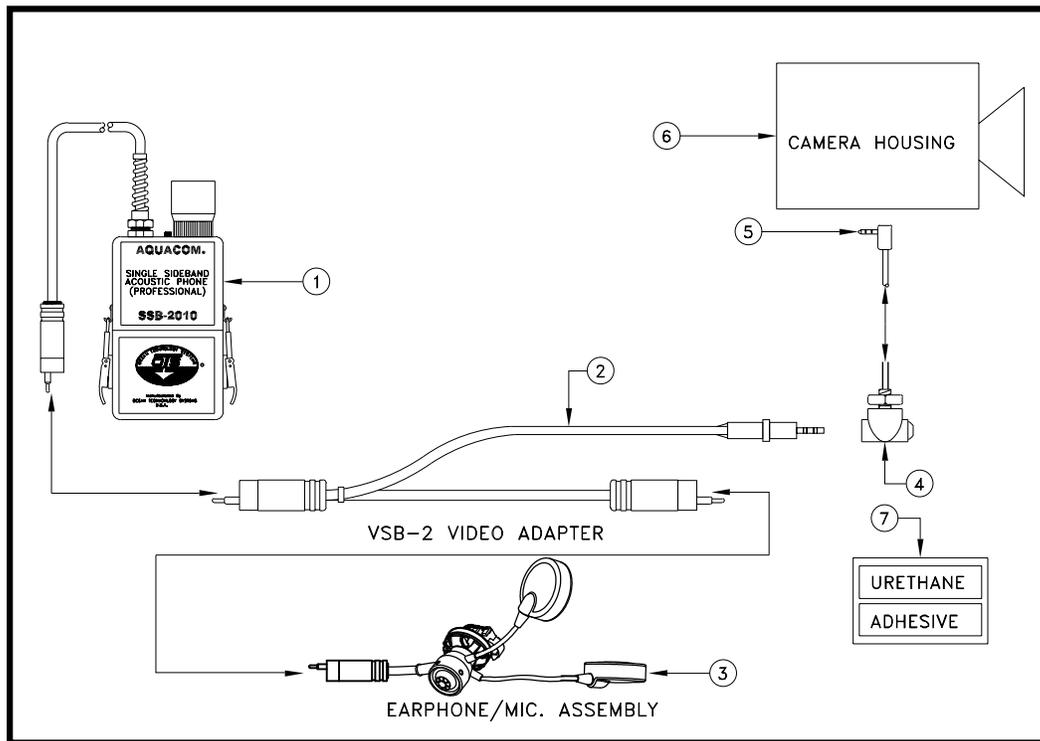
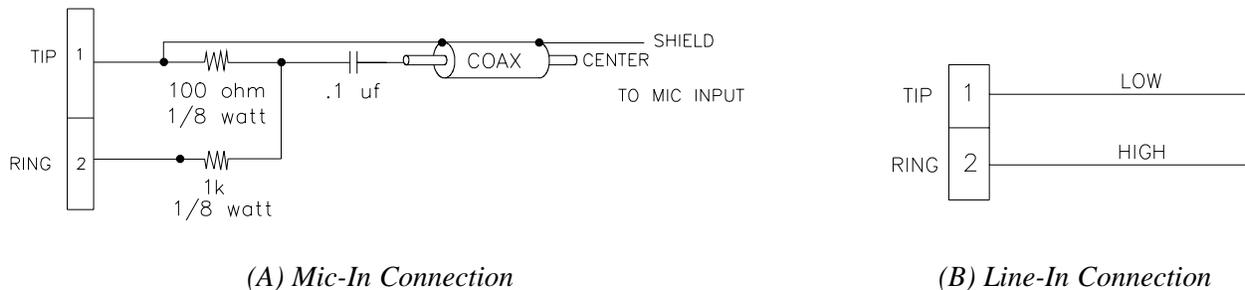

Figure 1
Figure 2
Refer to Figure 1.
You will need to obtain the appropriate plug (Figure 1, Item 5) for audio input into your camcorder's mic-in or line-in jack. Often this is a mini (3.5mm) phone plug but may vary. Be sure to acquire a plug that—along with an installed cable—will fit easily between the camera and the wall of the underwater housing (a 90°-angle plug may be required), so that the camera with the connected audio plug can be inserted into or removed from the housing without damage. Standard audio plugs are available at any Radio Shack® or other electronic component supplier.
1. **Make the electrical connections:** The correct wire connections between the female bulkhead E/O connector (Figure 1, Item 4) and the audio input connector (Item 5) depend on whether your audio cable will connect into an external mic-in or line-in jack on your camcorder. (Mic-in requires higher impedance than line-in.) Connect the wires according to the appropriate diagram in Figure 2. You may want to extend the existing cable to ensure enough cable length exists to be able to make the connection to your camcorder outside the underwater housing.
3. **Choose a location for the bulkhead connector:** Locate a flat spot on the underwater camera housing (Figure 1, Item 6). When choosing the location, ensure no parts or controls on the camera or camera housing will interfere with the bulkhead connector. The newly installed connector will have wires and an audio plug attached that will protrude into the underwater housing wall.
Use the included urethane sealant (Figure 1, Item 7) to ensure the installation is watertight. Prepare the outside surface of the hole you just drilled with 400-grit sandpaper (just enough to remove the shine). Mix together both parts of the urethane thoroughly. Your working time will be about six minutes from when you mix the two parts together. With the connector upside down, liberally apply the urethane to the shoulder seal and partially up the threads. Then quickly insert, position, and tighten the connector. Do not remove excess urethane.
Remove the earphone-microphone assembly from the SSB-2010 or SSB-1001B transceiver (Figure 1, Item 1) (see its user's manual). Install the unmarked connector (the other connector is marked *Diver* in white ink) of the VSB-2 (Item 2) connector to the mating connector located on the SSB-2010/1001B. Plug the other connector, marked *Diver*, into the ear-mic assembly (Item 3) installed on the diving mask.